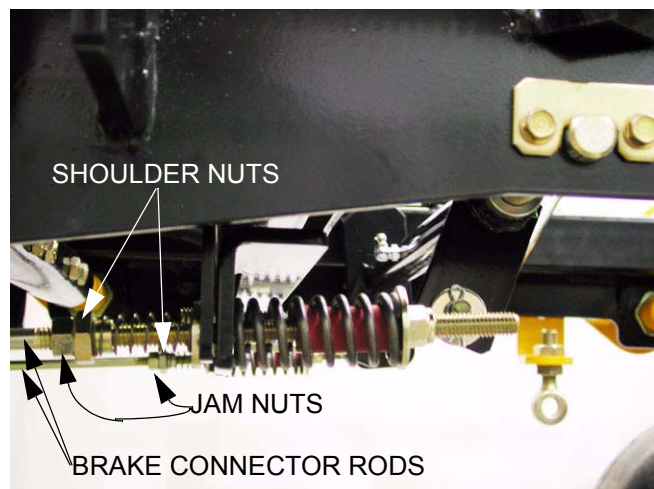

Figure 7.7
- 7.7. Loosen the jam nut that locks the shoulder nut in position on the brake connector rod using a 9/16" wrench and a 3/4" wrench. See Figure 7.7.